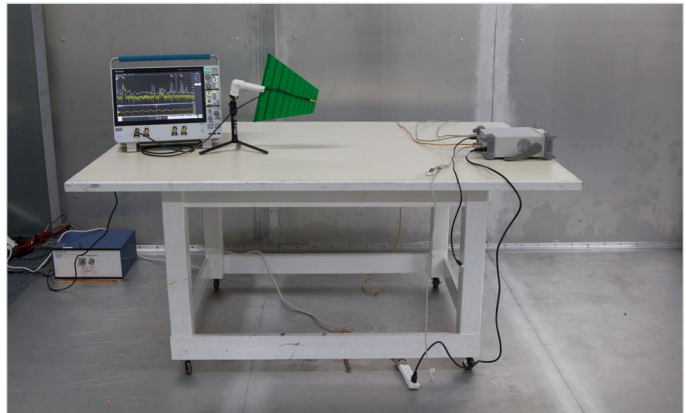

Figure 4. A typical troubleshooting test setup for radiated emissions. The distance between antenna and equipment under test is approximately 1 m.
- Once the product's harmonic profile is fully characterized, it's time to see which harmonics actually radiate. To do this, we can use an uncalibrated antenna connected to a 4/5/6 Series MSO spaced at least 1m away from the product or system under test to measure the actual emissions (**Figure 4**). Typically, it will be radiation from attached I/O or power cables, as well as leakage in seams or apertures of the shielded enclosure. Compare this data to that of the near field and current probes. The actual measured emissions should indicate the energy source as identified by the previous probing.